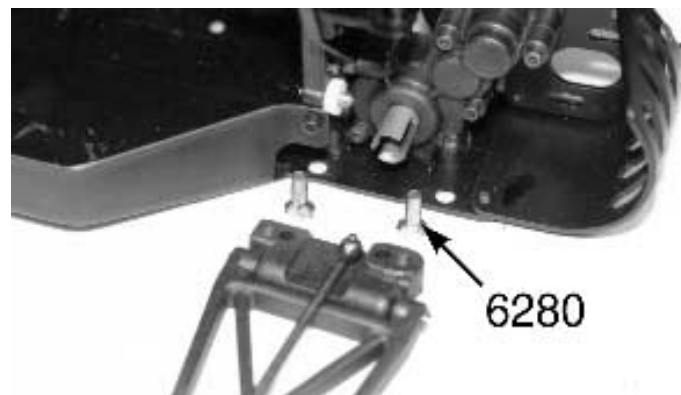

Fig. 106
□ **Figs. 106** This step will also be the same for all models. (1) Take four #6280 8-32 x 1/2" FHMScrews from bag #7-8. We will start with the left suspension arm assembly and line up the rear suspension mount over the two mounting holes on the left side of the chassis. The only holes on the mount that will line up with be the forward and the rear hole. On this truck the inside holes cannot be used. Thread the two screws into the mount from the bottom of the chassis. Now go ahead and do the same for the right side arm assembly. Remember the shock mounts will be on the front side.